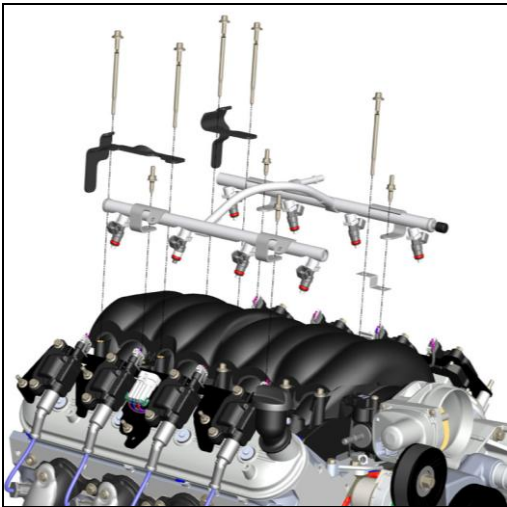

Figure 1
7. Remove the fuel rail mounting and related hardware (Figure 1).